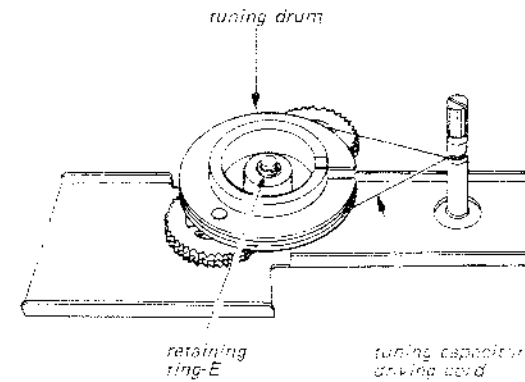

Fig. 2-17.
3. Remove the retaining-ring-E shown in Fig. 2-17 and take off the tuning drum.
4. Set the tuning drum as shown in Fig. 2-17. slot to the right.